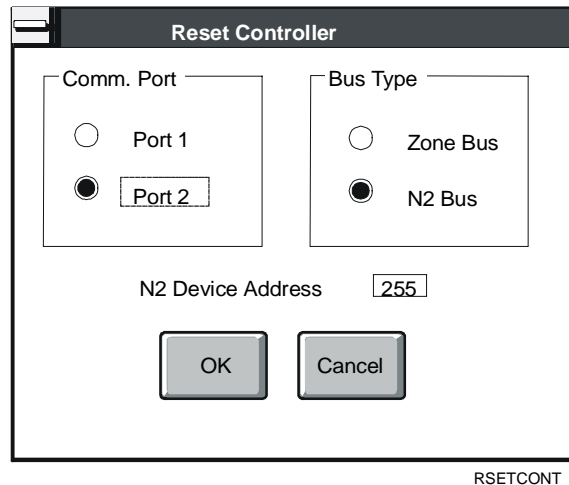

Figure 15-25: Reset Controller Dialog Box
- On the Action menu, click Reset Controller. The Reset Controller dialog box displays (Figure 15-25).